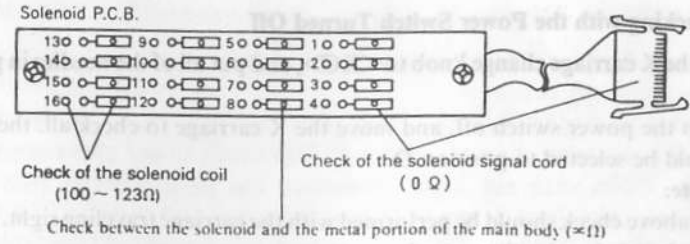

Figure 8-3
- Disconnect the needle selector solenoid unit (refer to on P.37 item 10 of KH-900). Check the resistance values of the places which correspond to the solenoids on the solenoid PC board which were found to be bad. The resistance value of the solenoid coil should be between 100-123 $\Omega$ , the resistance value of the solenoid signal cord should be 0, and the resistance value of the metal portion of the main body and the solenoid should be  $\infty\Omega$ (refer to figure 8-3).